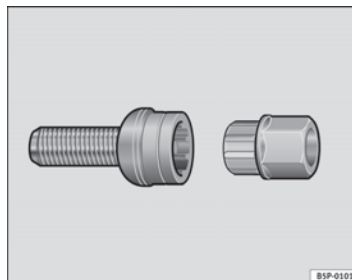

Fig. 187 Anti-theft wheel bolt
- Insert the adapter onto the wheel bolt and push it on as far as it will go ⇒ page 250, fig. 187.